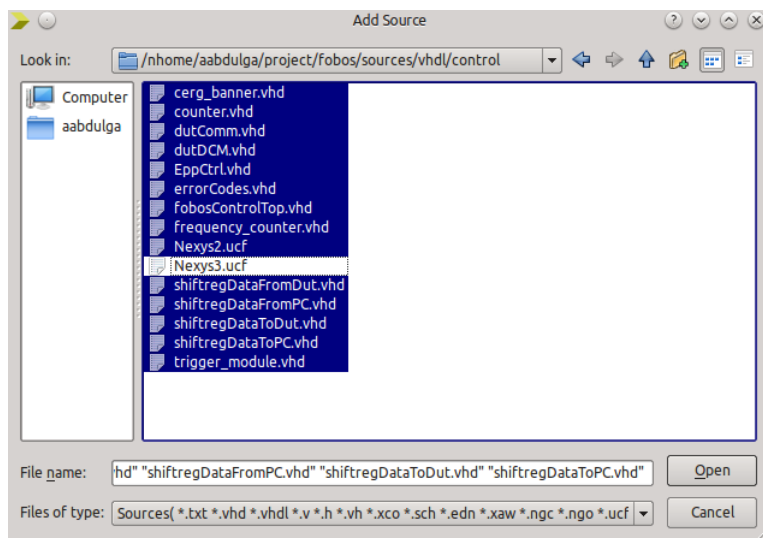

Figure 4.3: Adding Source Files to FOBOS Controller
- Repeat the previous step to add all vhd files from `$fobos/sources/vhdl/control`. Also, add the appropriate UCF file depending on the Control Board used (See Fig 4.3) .